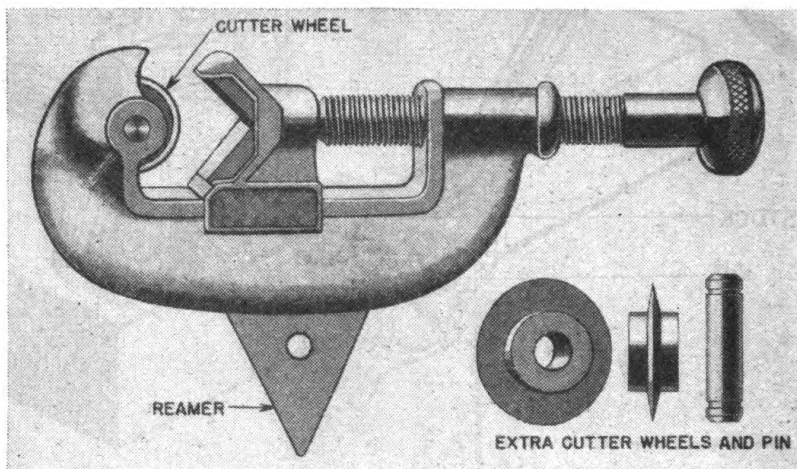
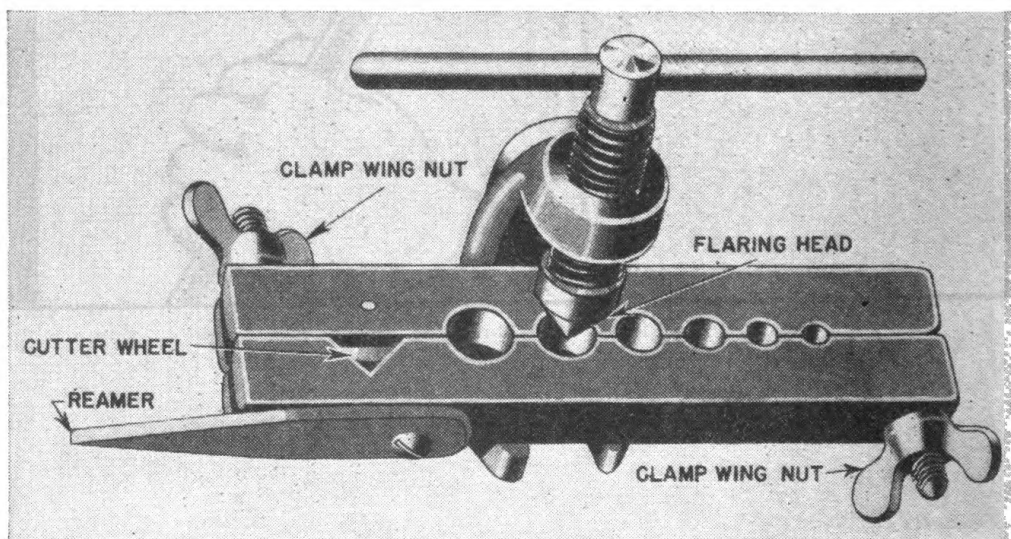

FIGURE 69.—Tubing cutter.
FIGURE 70.—Flaring tool.
d. Cutting and flaring tubing.—The small tubing generally used for automotive fuel lines and similar purposes can be cut with the tubing cutter, shown in figure 69. The use of the cutter is similar to the use of the pipe cutter on a much smaller scale. A reamer for removing the bur left inside the tubing is attached to the tool. It is important that the tubing be cut off at right angles to its length, especially if it is to be flared. If a flare-fitting is to be used, the flaring tool shown in figure 70 is used. The purpose of this flaring tool is to expand the end of the tubing so that it will fit into the expansion fittings frequently used on motor vehicles as tubing connections. It can also be used as a cutter. *Always be sure the fitting is placed on the tubing before using the flaring tool.* The tool